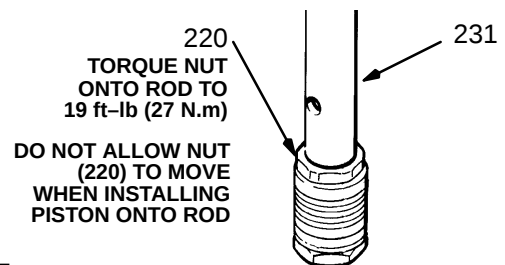

Fig 5
7. **CAREFULLY** tighten the nut (211) onto the piston rod and torque to 19 ft-lb (25 N.m). See Fig 5. Use two wrenches to maintain the alignment.
11. Place a new o-ring (218) firmly in the cylinder groove. See Fig 5.